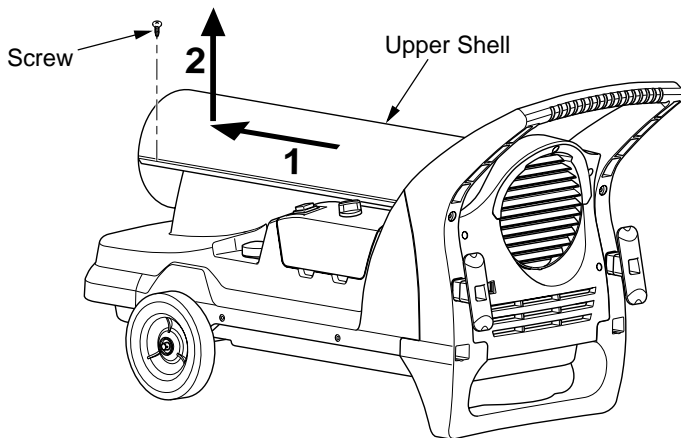

Figure 5 - Upper Shell Removal
1. Remove screws along each side of heater using phillips screwdriver. These screws attach upper and lower shells together. See Figure 5.
1. Remove upper shell (see Figure 5).